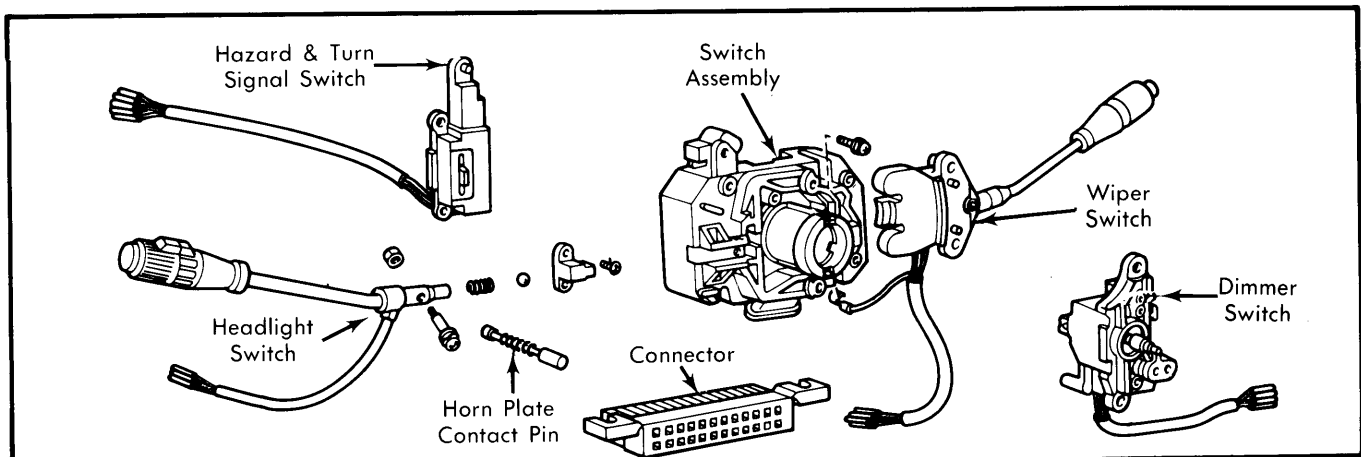

Fig. 1 Exploded View of Combination Switch
4) Remove wiper switch, hazard flasher switch and dimmer switch. See Fig. 1. Hazard flasher/turn signal switch cannot be removed on Celica.